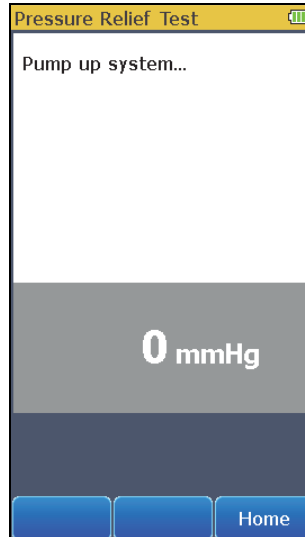

Figure 9. Pressure Relief Test Screen
2. Touch the **Pressure Relief Test** control to show the screen in Figure 9 in the display.